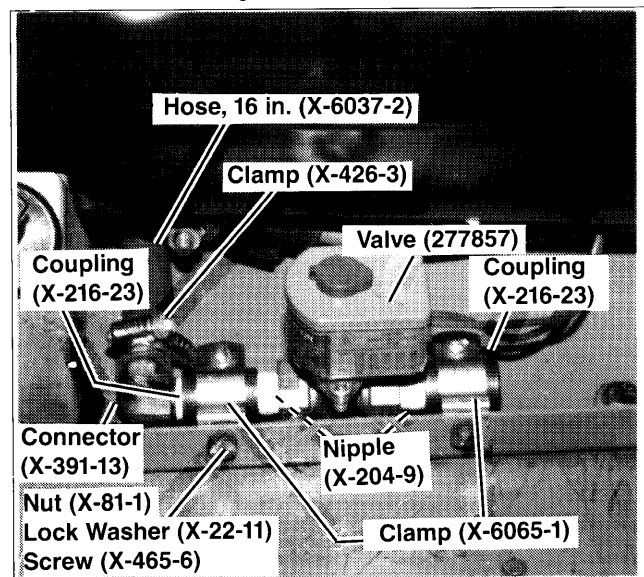

Figure 8. Fuel Valve Components
- Assemble fuel valve components as shown in Figure 8. Use pipe sealing compound at all threaded connections to prevent gas leaks.